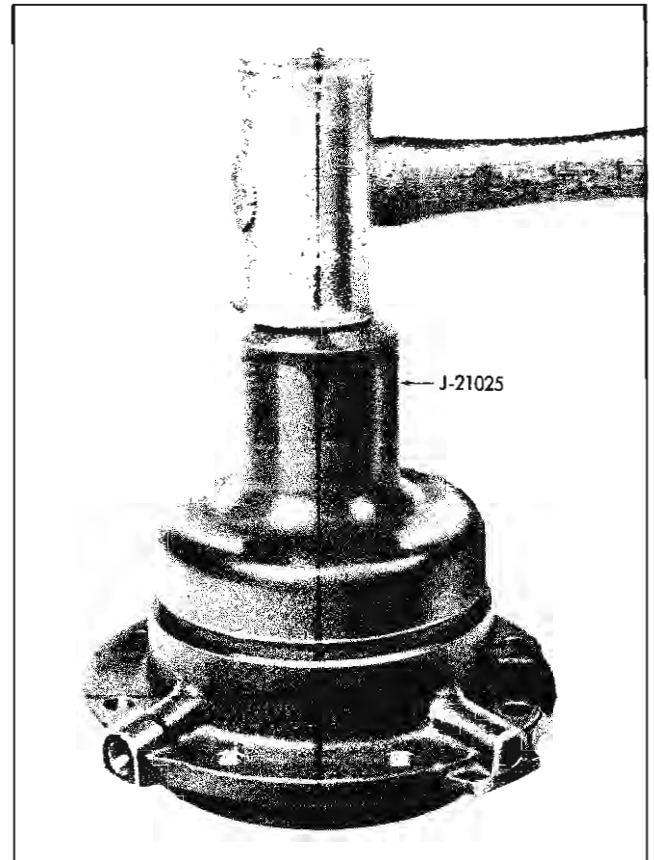

Fig. 4-52 Installing Rear Flange and Oil Seal
1. Apply uniform bead of sealer and install new rear flange and stator seal using J-21025 (Fig. 4-52).